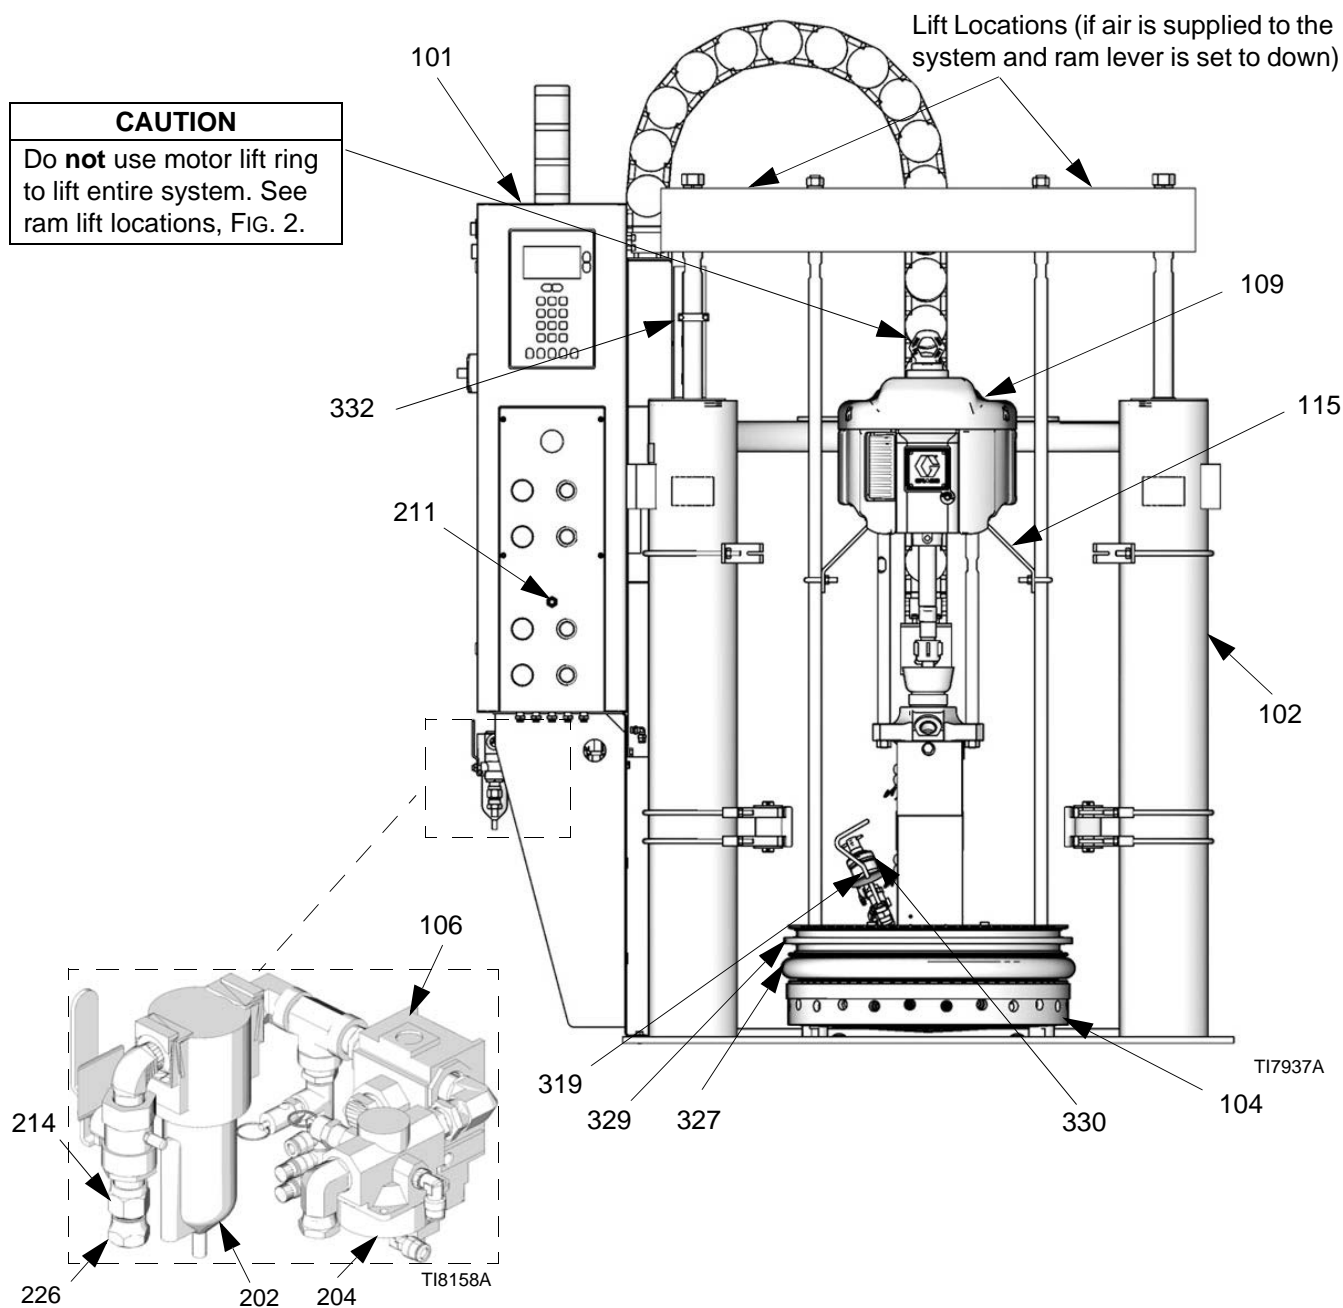

FIG. 2: Typical Installation
The typical installation discussed and shown is only a guide for selecting and installing system components and accessories. See FIG. 2. Contact your Graco distributor for help in designing a system to suit your particular needs.
Do not use motor lift ring to lift entire system. See lift locations, FIG. 2.
6. Wrap the bar with the lifting sling. See FIG. 2 for proper lift spots.